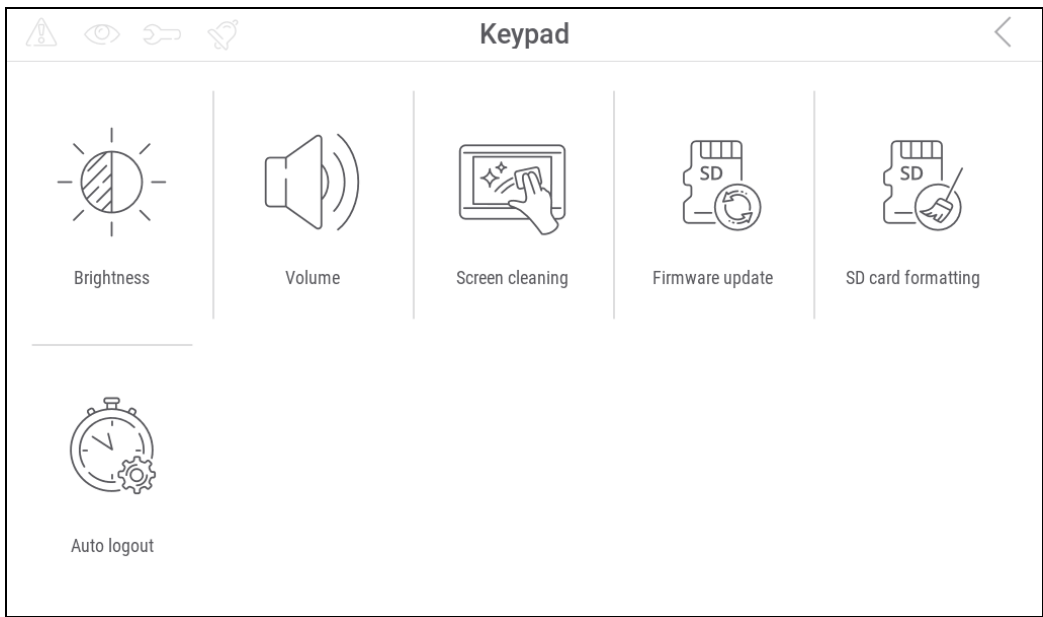

Fig. 26. "Keypad" screen.
6. Tap the “Keypad” function. The “Keypad” screen will be displayed (Fig. 26).
3. Tap the "Keypad" function. The "Keypad" screen will be displayed (Fig. 26).